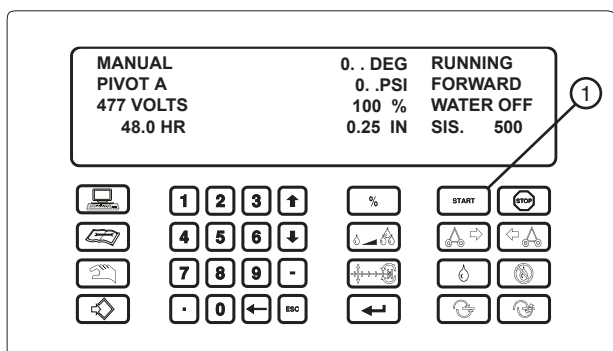

Figure 80-3 1. START key.
7. Press  to start the machine in the pivot mode. See figure 80-3.